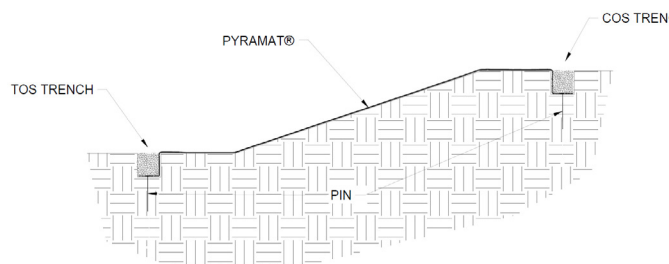

Figure 12: Crest of Slope (COS) trench and Toe of Slope (TOS) Trench complete
- Begin the **PROPEX** Pyramat laydown process by starting with the downstream/downwind end of the site. To ensure proper pining of the overlapped areas the proceeding roll width must be laid out before the current roll width can be pinned with exception to the final roll width. For straight sections of a slope, **PROPEX** Pyramat panel lengths should be long enough to construct COS and TOS trenches while also covering the surface of the slope being armored (Figure 12). Panel edges should rest approximately perpendicular to the slope center line. For best results, panels of **PROPEX** Pyramat should be continuous and free from seams or roll end overlaps that are parallel to the centerline of the slope. Panel edge overlapping should follow a pattern of placing each proceeding panel's edge over top the previous panel edge, shingling the panels in the direction of the water flow or prevailing wind.
7. Secure **PROPEX** Pyramat with pins in the TOS trench. Suggested placement of pins for the TOS trench is along the bottom of the trench with pins on 12 in (300 mm) centers (Figure 12).
8. Backfill and compact the TOS trench (Figure 12).